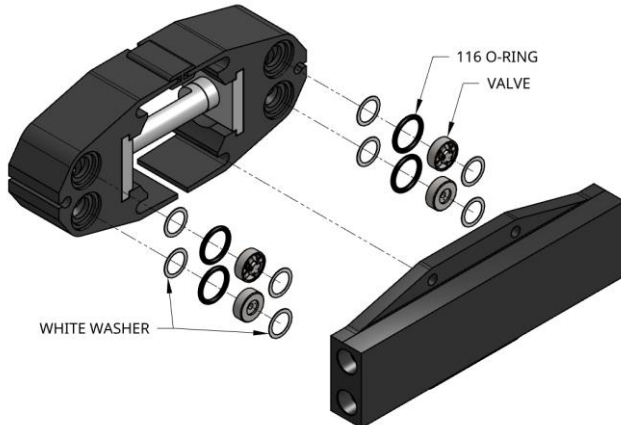

Figure 7
**IMPORTANT:** It is imperative the alignment of OUT/IN ports coincide with valves as indicated in Figure 7 and 8.